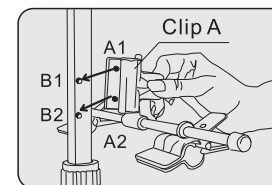

FIGURE 7
1. Insert the pin A1 and pin A2 on the clip A in hole B1 and B2 to fix the holding nips on the telescopic pole as per figure 7.